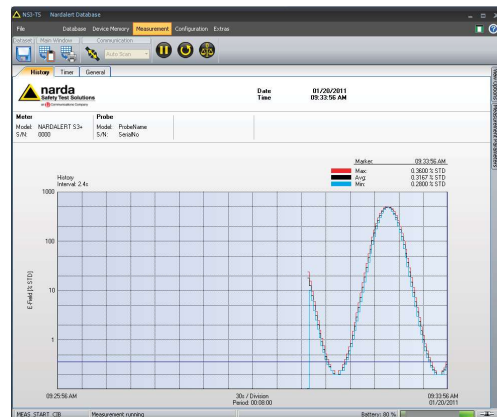

Figure 4
4. **Measurement** – Displays real-time measurements on computer (Figure 4)